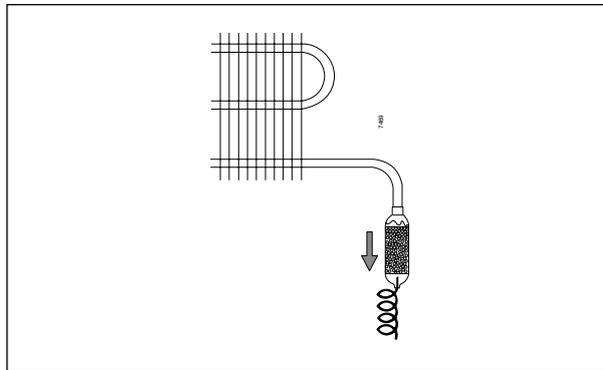

Fig. 10: Correct location of filter drier
Thus it is prevented that the Molecular Sieve (MS) balls wear each other and produce dust, which may block the capillary tube inlet. This vertical position also ensures a quicker pressure equalization in capillary tube systems. See Fig. 10.